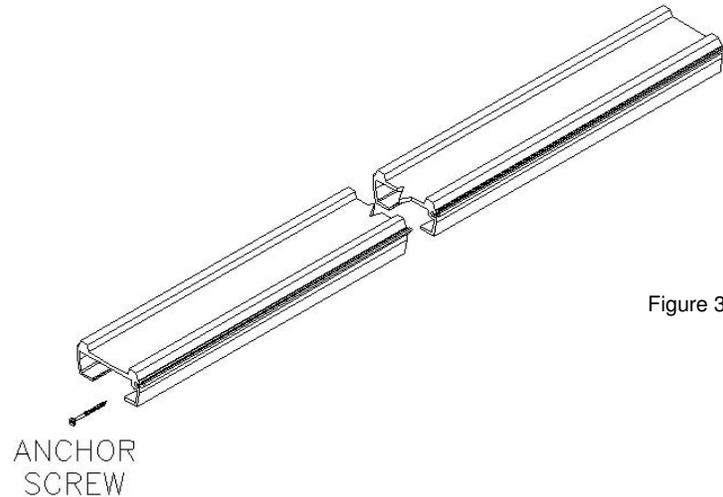

Figure 39
- e. Pull the seal flush with the end of the slat/plank. Install the anchor screw (Figure 39). Do not tighten the anchor screw too tightly. Allow the adhesive to dry before finishing the installation of the slat/plank.